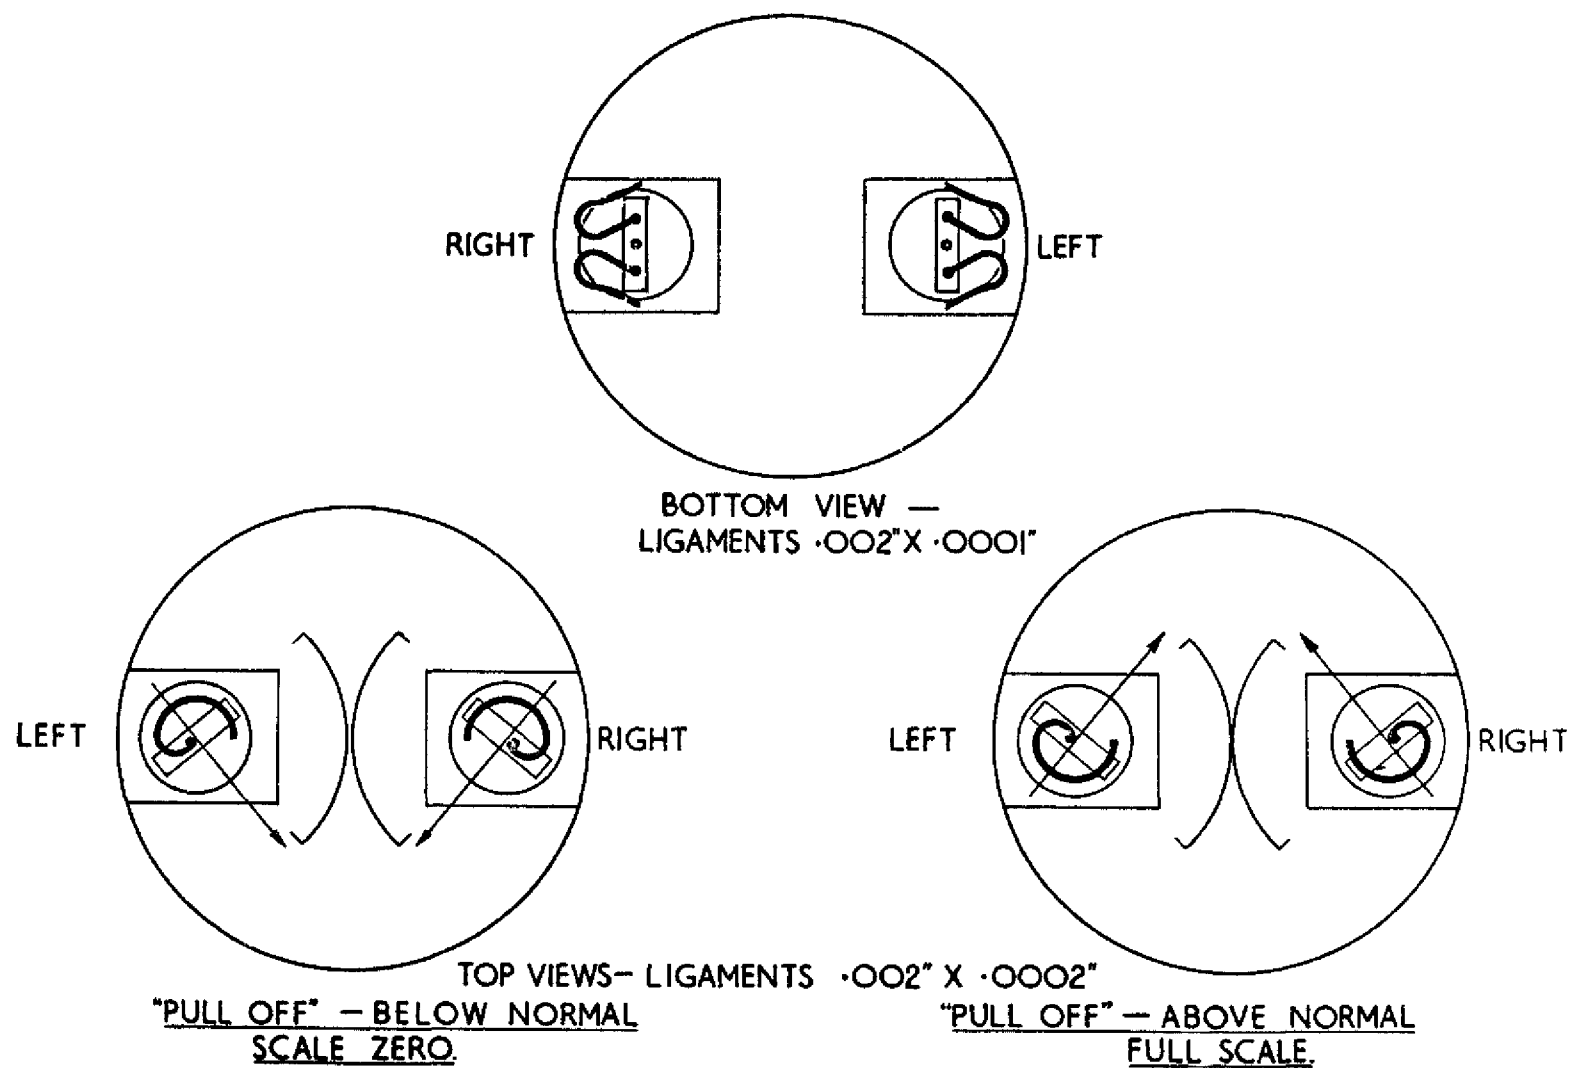

Fig.2. Ligament details
- (9) Adjust the jewel screws so that the gaps between the core and moving element are equal at each end.
- (10) Solder the ligaments to their respective terminals. Shape of the ligaments after soldering must be as shown in Fig.2. Direction of pointer pull-off for the indicator being overhauled will be found in this illustration also.